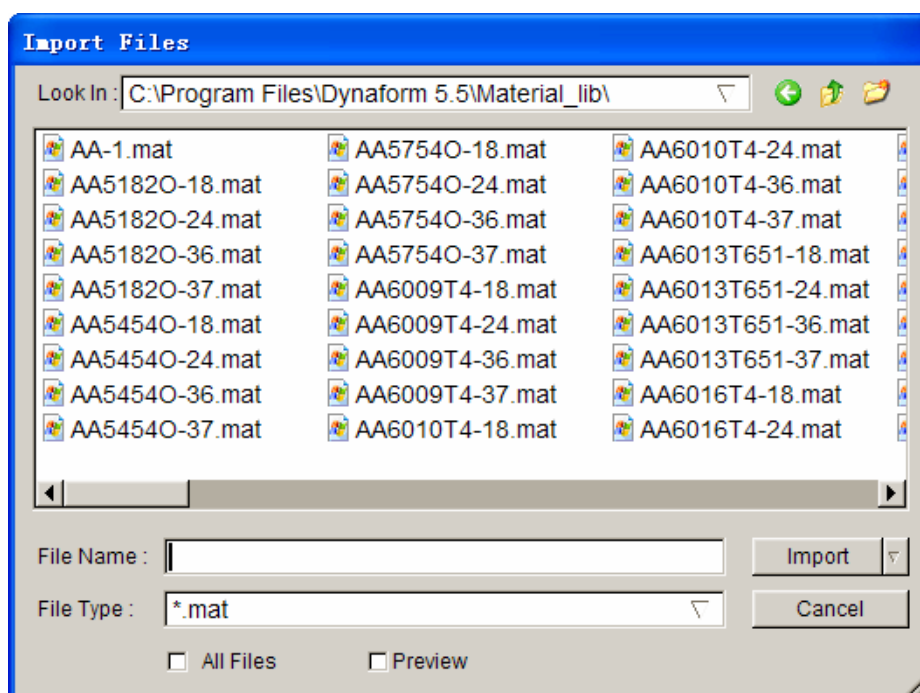

Figure 8.2.29 Input Material window
**IMPORT:** Allow the user to import a material file. The extension of the file name is “.mat”. After clicking this button, the program displays the import material window as shown in Figure 8.2.29.